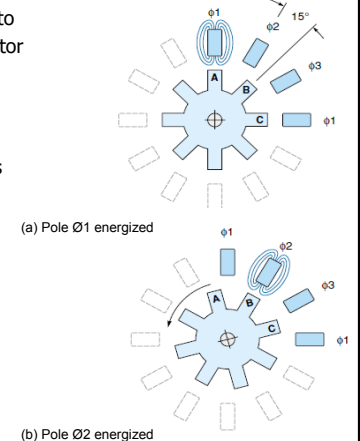

Figure 3.16 Operation of a 15° three phase VR stepper motor
- When circuit $\phi 1$ is energized, the rotor will move to the position shown in Figure 3.16(a)—that is, a rotor tooth (A) is lined up with the $\phi 1$ field pole.
- Next, circuit $\phi 2$ is energized. Rotor tooth B, being the closest, is drawn toward it [Figure 3.16(b)].